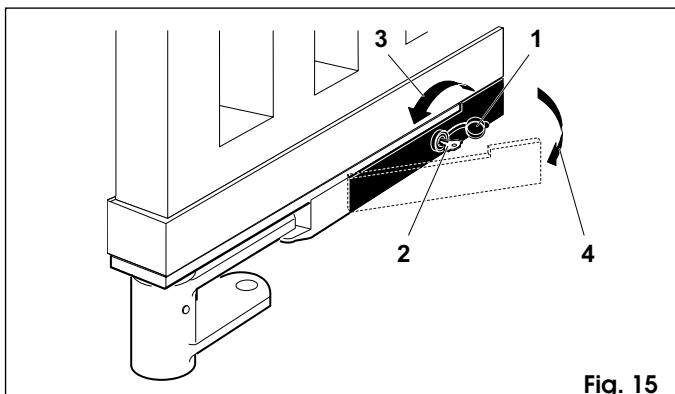

Fig. 15
- open the lid of the lock (fig. 15-ref. 1);
- insert the release key in the lock (fig. 15-ref. 2);
- turn the key in the direction of the post, as far as it will go (fig. 15-ref. 3);
- pull the lever out (fig. 15-ref. 4);